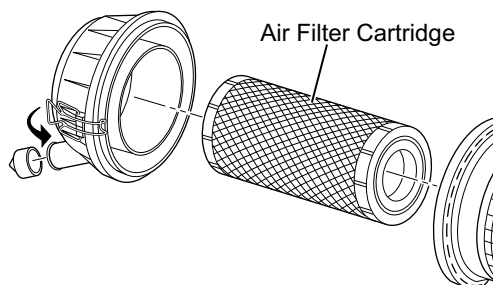

Fig. 9 Air Filter
3. Remove the filter from the housing (Ref. Fig. 9).